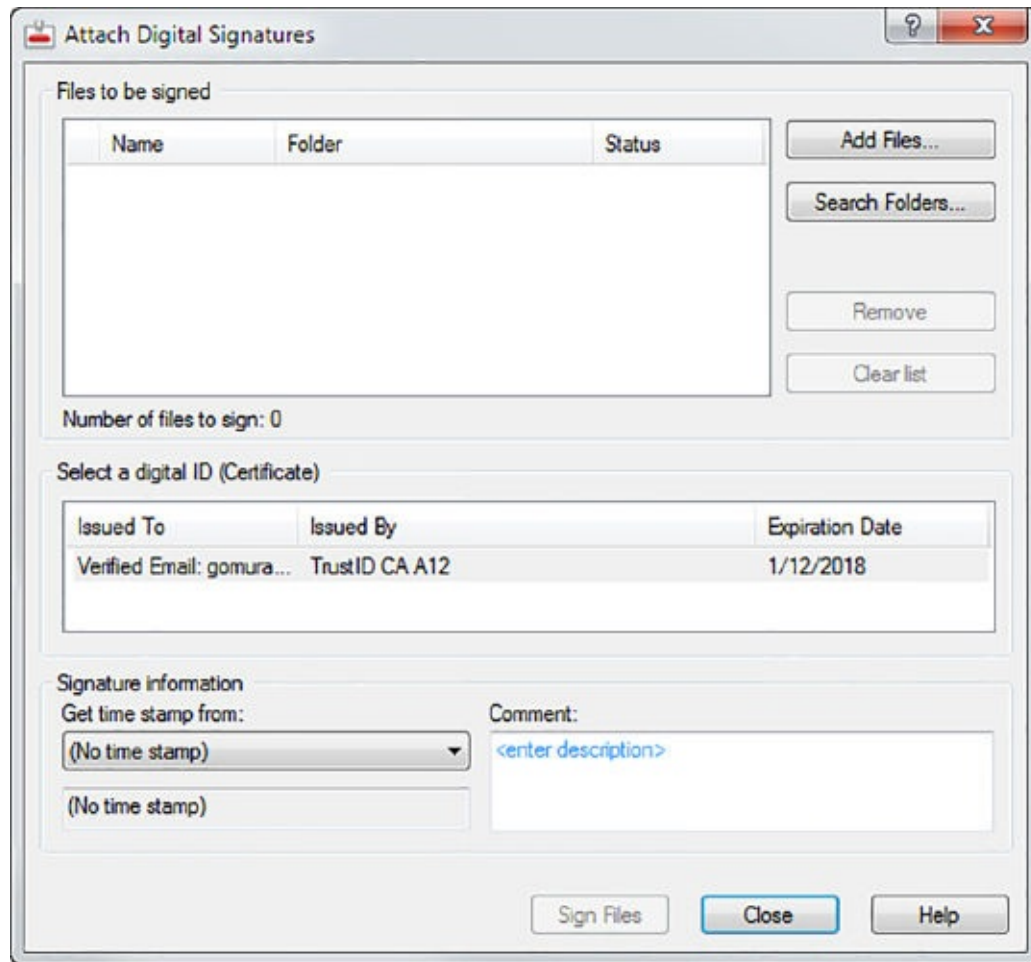

FIGURE 25.7 Signing multiple files
1. From the Windows Taskbar, choose Start > All Programs > Autodesk > AutoCAD 2018 > Attach Digital Signatures to open the Attach Digital Signatures dialog box (see Figure 25.7).